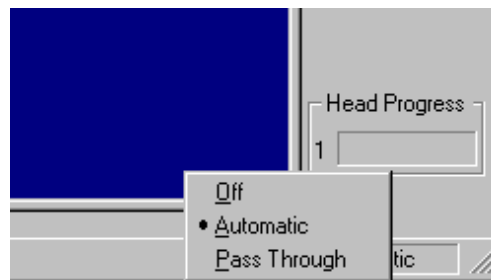

Figure 5-5
- a. Move cursor from the **Machine screen** down to the **Conveyor Status window**, located in the lower right-hand corner of the screen. See Figure 5-5.